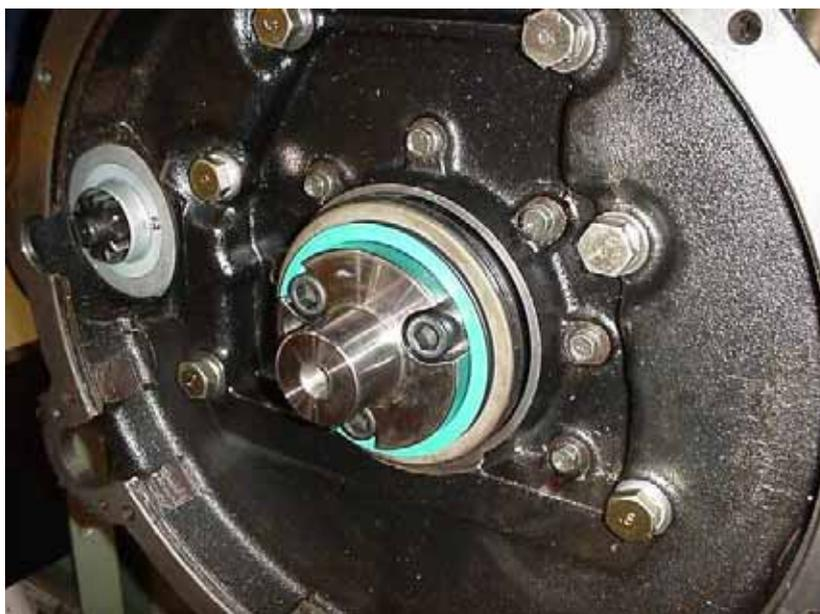

Figure 41 New Type of Seal (Placed on Crank Plate Ready for Installation)
- h. Push the seal, by hand, along the crank guide until it contacts the crankshaft (Figure 41).